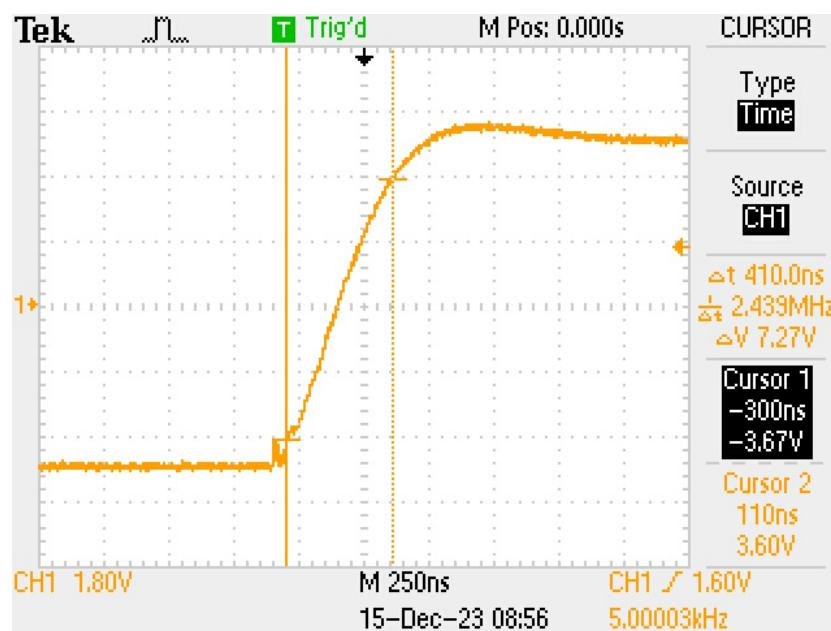

Figure 2.5: Rise Time Measurement
4. Zoom in on the rising edge of the waveform, see Fig 2.5
5. Measure the rise time at the -2 divisions (10%) and +2 divisions (90%), see Fig 2.5.